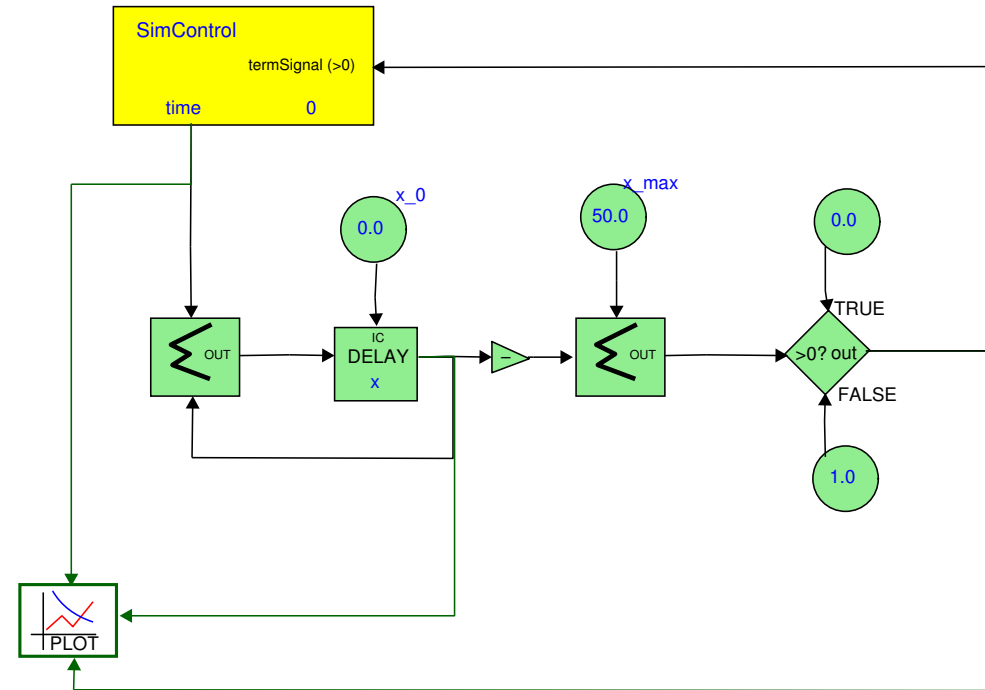

Figure 3: Model with Delay Block
4. Above all, the simulator must be able to handle delay blocks. The delayTest\_CausalBlockDiagram.mdl.py model depicted in Figure 3 is an example. Note how in this example, the simulation termination condition uses the